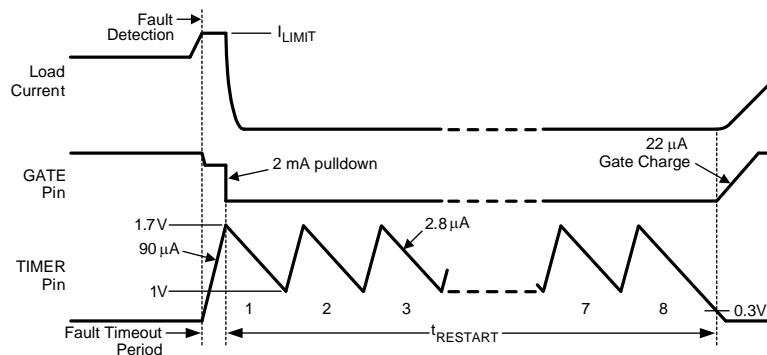

Figure 34. Restart Sequence
The LM25066I/A provides an automatic restart sequence which consists of the TIMER pin cycling between 1.7V and 1V seven times after the Fault Timeout Period, as shown in Figure 34. The period of each cycle is determined by the 90 μ A charging current, and the 2.8 μ A discharge current, and the value of the capacitor C_T . When the TIMER pin reaches 0.3V during the eighth high-to-low ramp, the 22 μ A current source at the GATE pin turns on Q_1 . If the fault condition is still present, the Fault Timeout Period and the restart sequence repeat. The RETRY pin allows selecting no retries or infinite retries. Finer control of the retry behavior can be achieved through the DEVICE_SETUP (D9h) register. Retry counts of 0, 1, 2, 4, 8, 16 or infinite may be selected by setting the appropriate bits in the DEVICE_SETUP (D9h) register.
C) Restart Timing - For the LM25066I/A, after the Fault Timeout Period described above, C_T is discharged by the 2.8 μ A current sink to 1V. The TIMER pin then cycles through seven additional charge/discharge cycles between 1V and 1.7V as shown in Figure 34. The restart time ends when the TIMER pin voltage reaches 0.3V during the final high-to-low ramp. The restart time, after the Fault Timeout Period, is equal to: